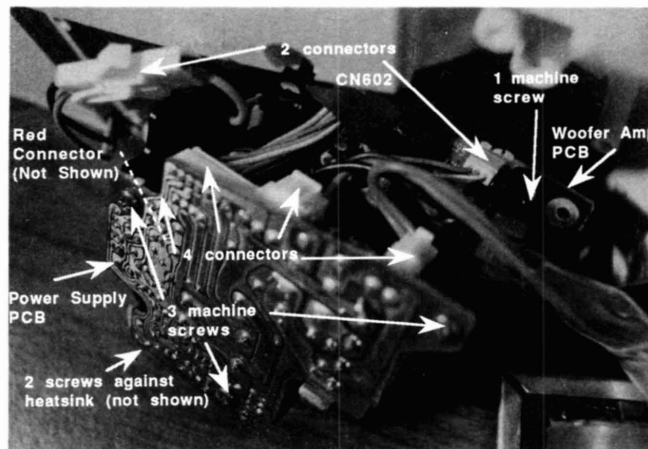

Figure 5
10. Woofer Amp PCB Removal (Figure 5)
11. Power Supply PCB Removal (Figure 5).
12. Woofer Amp PCB Replacement (Figure 5)
13. Power Supply PCB Replacement (Figure 5)